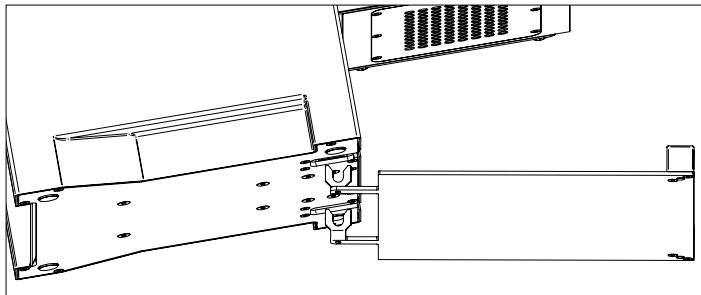

Figure 3: Tip-Touch Plate has to be attached in the corresponding slots.
1. Place the MultiMACS Separator on a clean, stable, and planar laboratory bench. Tilt the MultiMACS Separation Unit by lifting the device slightly and attach the Tip-Touch Plate into the holes beneath the instrument (as shown in fig. 3).